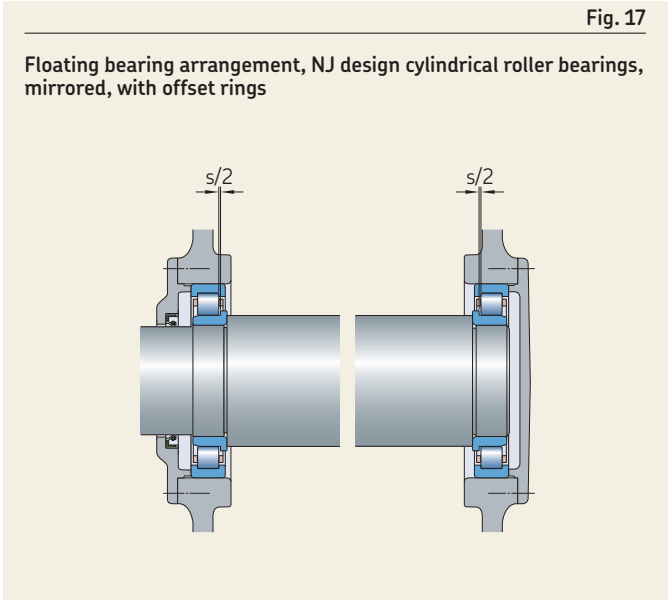

Fig. 17
- NJ design cylindrical roller bearings, mirrored, with offset rings (fig. 17)